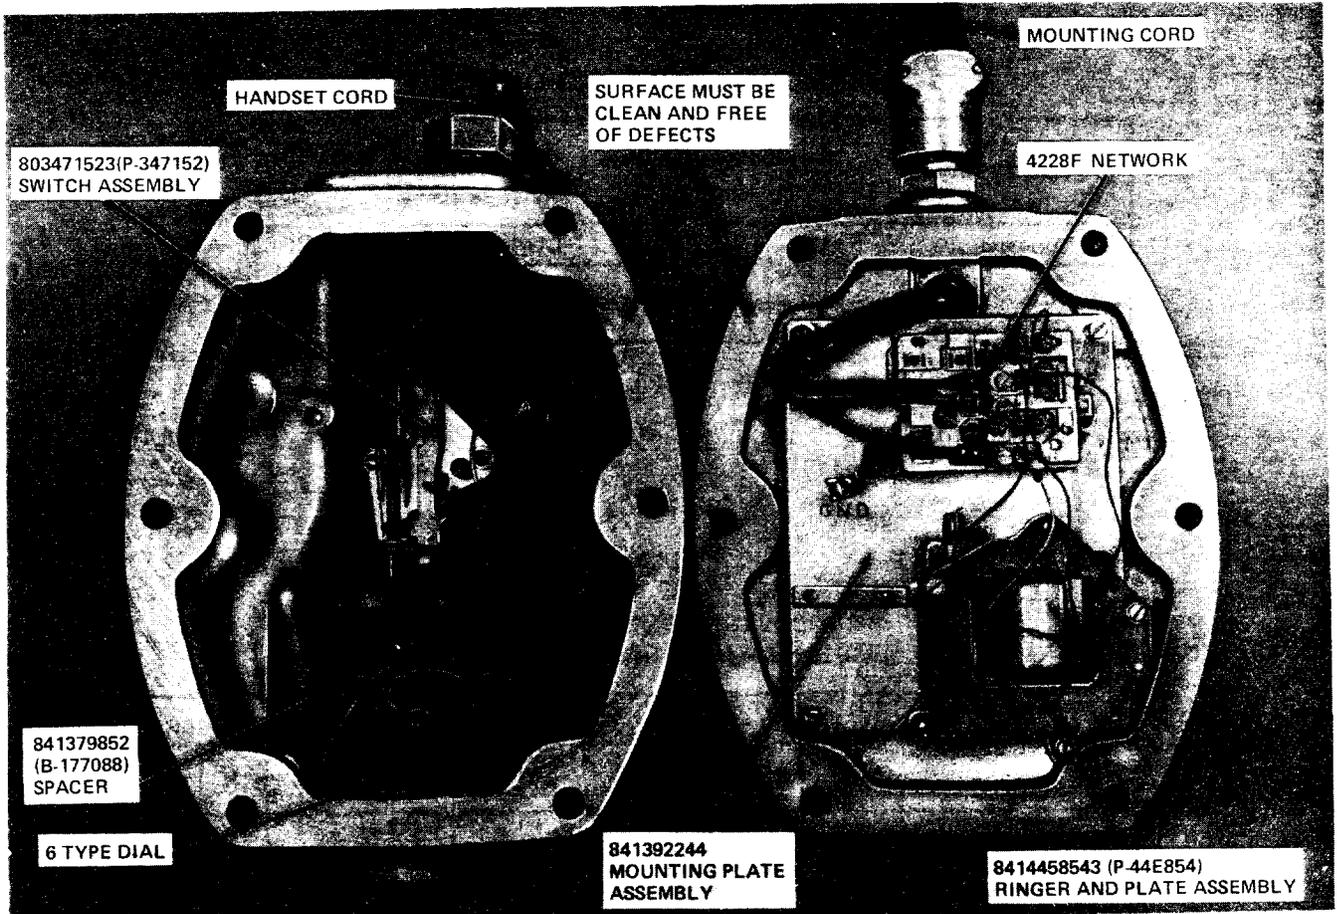

Fig. 3—KS-14476, List 1 Dial Telephone Set (Manufactured After 2-1-78)
2.03 Dial is operated by an external fingerwheel and a threaded shaft extending through housing (Fig. 3).